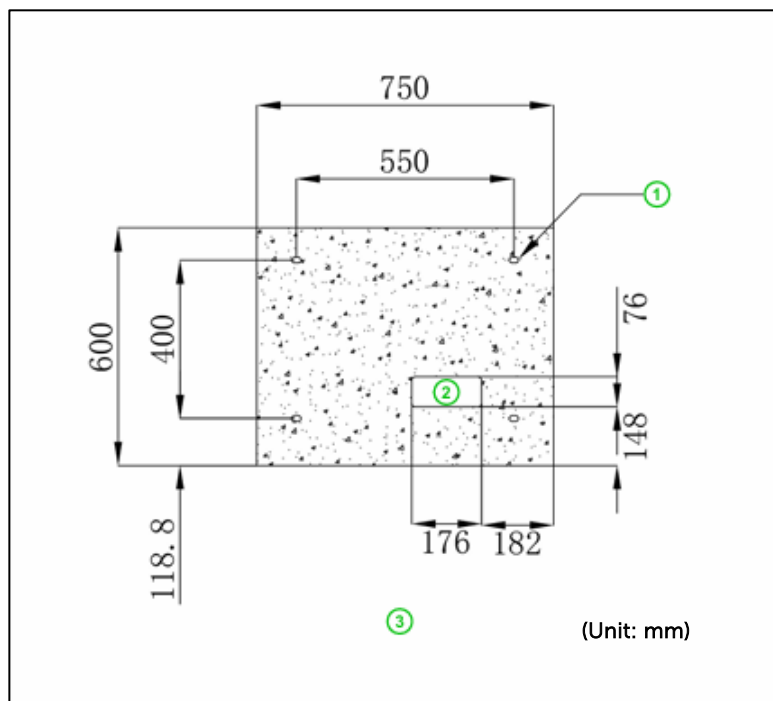
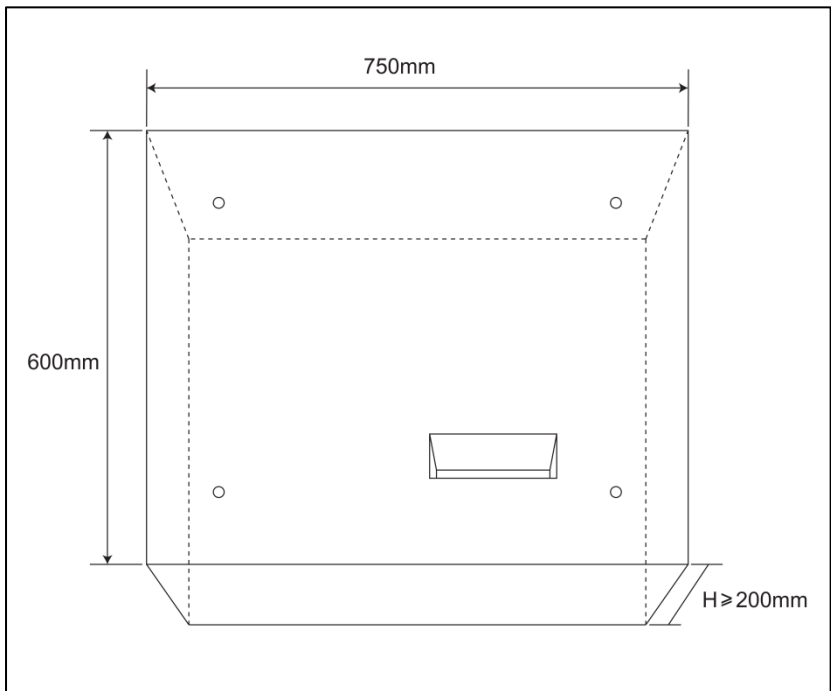
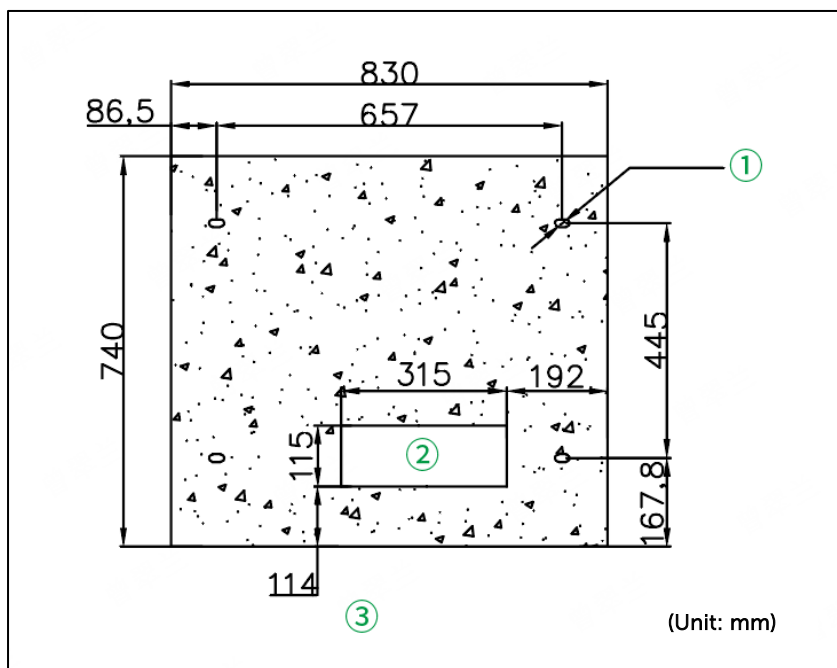
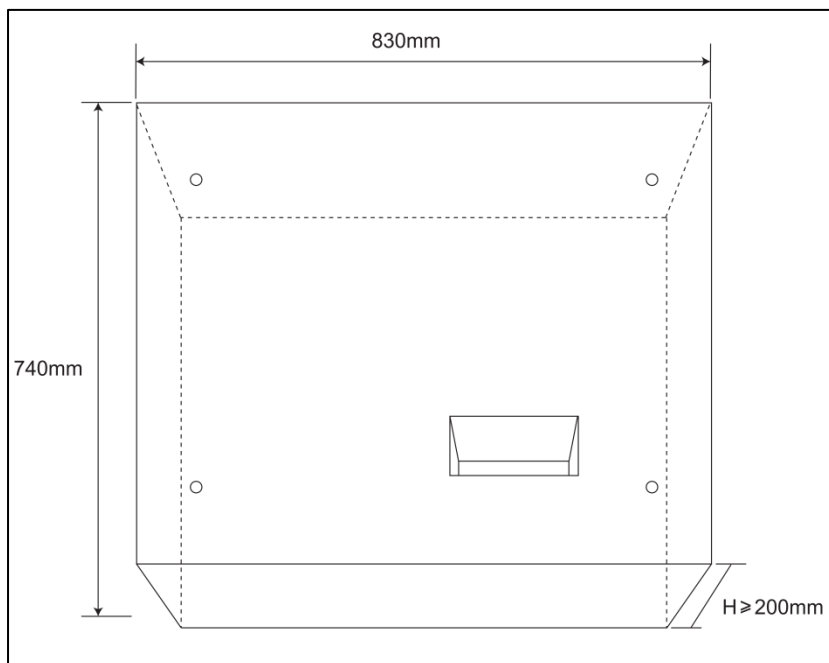

Figure 2.5.1 Hole positions and dimensions of 120~180 kW ground foundation
Figure 2.5.2 120~180 kW concrete cement base
Figure 2.5.4 Hole positions and dimensions of 240~360 kW ground foundation
Figure 2.5.5 240~360 kW concrete cement base
① Refer to Figure. 2.5.1 / Figure.2.5.4 for hole positions and dimensions; refer to Figure 2.5.2 / Figure 2.5.5 for concrete base dimensions. Cable holes of foundation correspond to the cable holes at the bottom of charger.